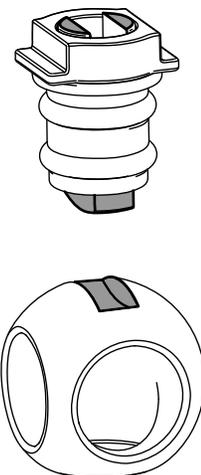

Figure 126
6. Insert the ball into the valve body (Figure 126).
Note: The valve stem should fit inside the ball drive slot. If the valve stem does not fit, adjust the position of the ball (Figure 126).